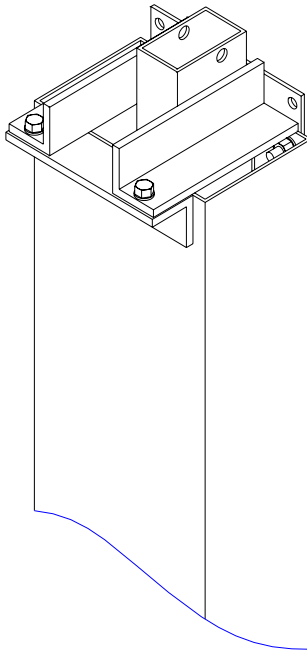

Figure 13
- B. One end of each cable should already be attached to each carriage. Feed the other end of the cable up behind the mainside hose and through the top of the leg as shown Figure 13.